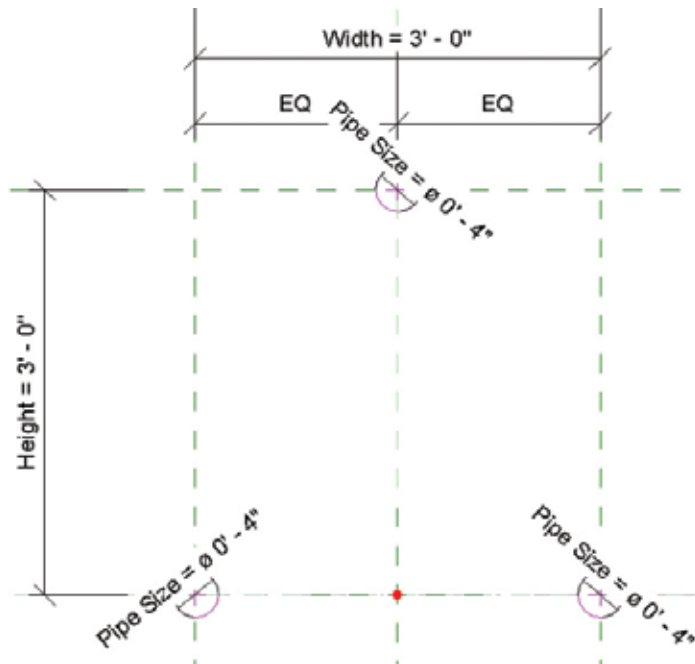

Figure 6.
- Add the three 4" circles, the reference planes, dimensions and parameters as shown in Figure 6.